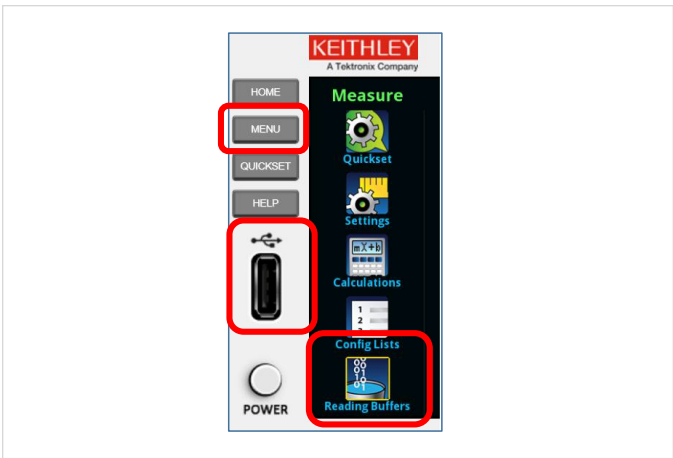

Figure 5: The MENU key; Reading Buffers icon; and USB drive insert.
- Press the **MENU** key (**Figure 5**).
- Touch the **Reading Buffers** icon found at the bottom of the Measure column (**Figure 5**).
- Insert a USB thumb drive into the port provided on the front of the DMM7510 (**Figure 5**).